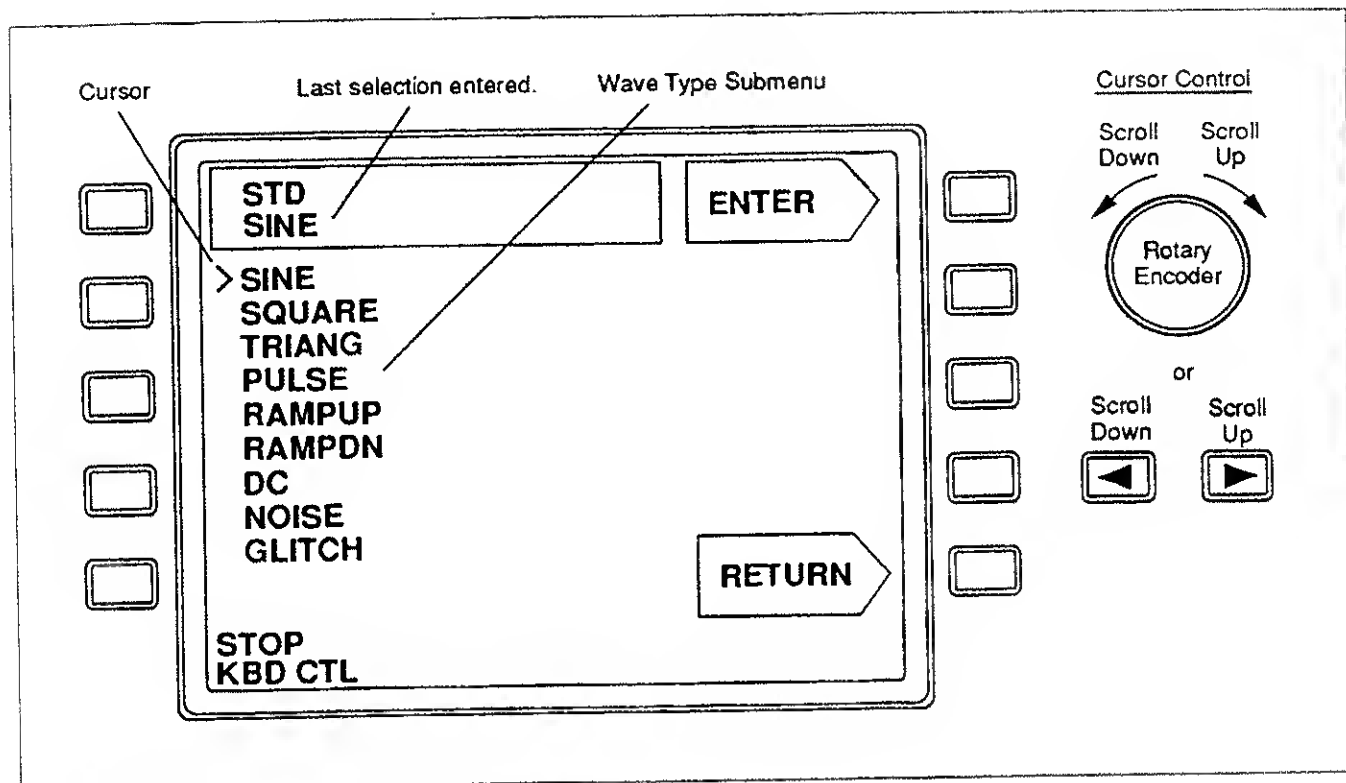

Figure 2-6. STANDARD WAVE Function Submenu
- Press STANDARD WAVE from the WAVE menu. This calls up the submenu of standard waveform functions shown in Figure 2-6.